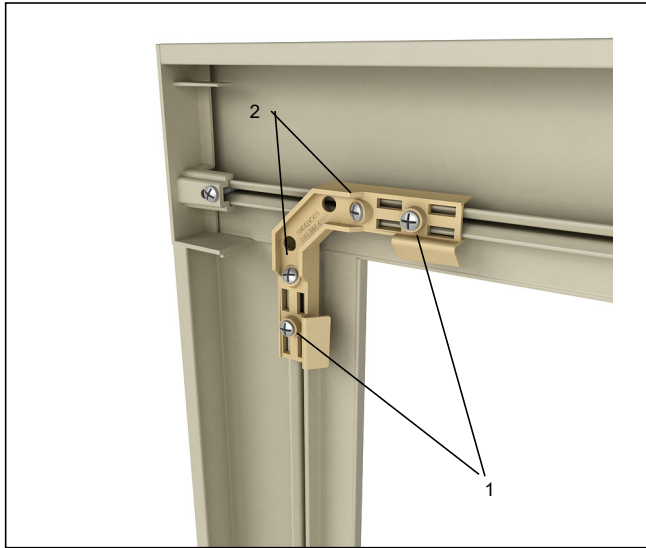

Figure 23
3. Fasten the corner key with included screws. First apply the outside 90° screws (1), followed by the two inside angled screws (2). Fasten until joints are tight. Over tightening may cause screw channel to strip out. See *figure 23*.